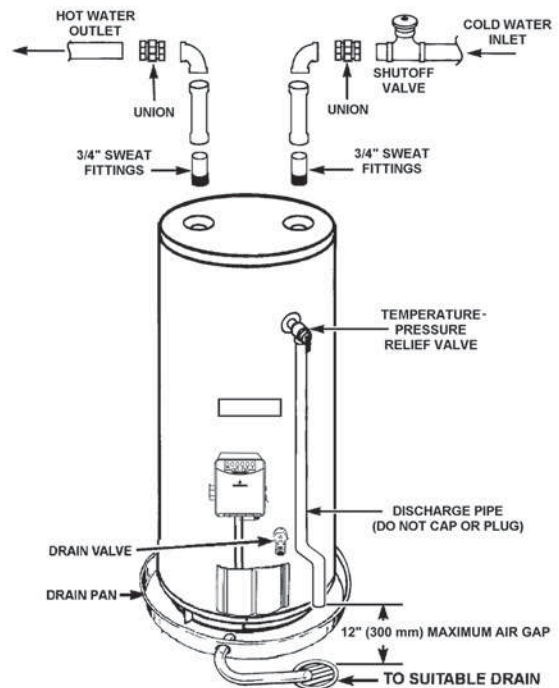

Figure 8. Typical Attachment of Water Piping to the Water Heater
Figure 8 shows typical attachment of water piping to the water heater. The water heater is equipped with 3/4 inch NPT water connections.
1. Locate the temperature and pressure relief valve on the water heater (also known as a T&P relief valve). See *Figure 8*.
3. Spread the slit open and fit the insulation over the T&P relief valve. See *Figure 8*. Apply gentle pressure to the insulation to ensure that it is fully seated on the T&P Relief Valve. Once seated, secure the insulation with duct tape, electrical tape, or equivalent.
Important: The insulation and tape must not block the discharge opening or hinder access to the manual relief lever. See *Figure 8*. Ensure a discharge pipe is installed into the T&P valve discharge opening